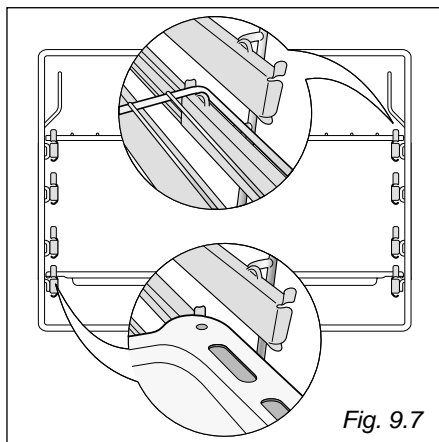

Fig. 9.7
- Position the shelf and tray on the sliding shelves (fig. 9.7).